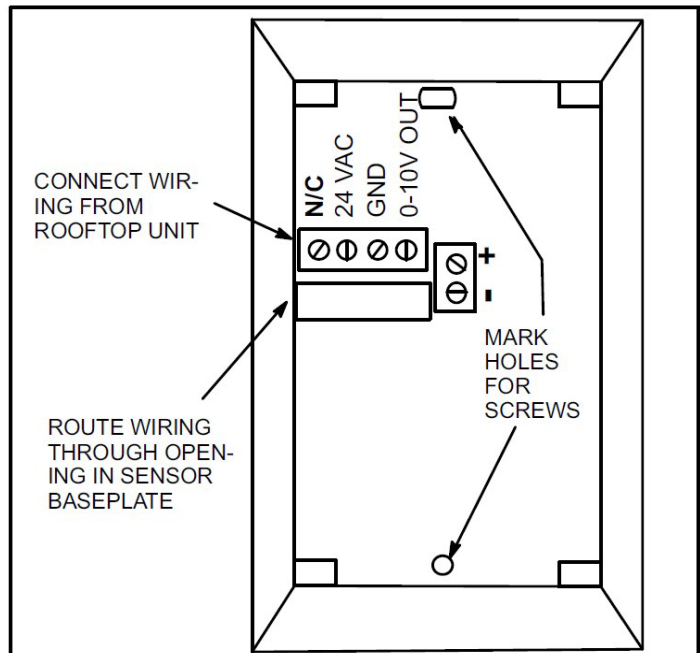

Figure 4. Wall-Mount Sensor Baseplate
4. Mark holes for screws (see Figure 4).